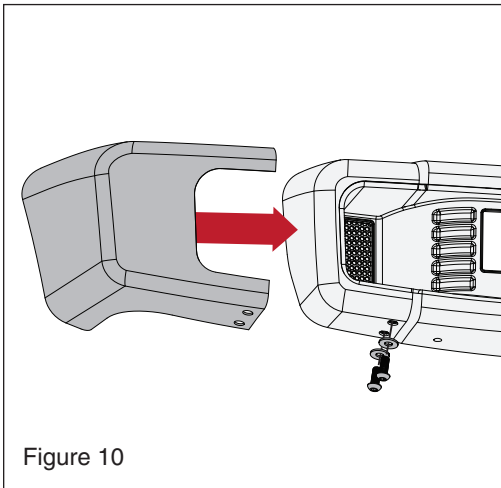

Figure 10
*Attach bumper ends on the rear bumper using lower M10 Button head bolts and plastic washers using a 6mm allen wrench. (see FIG10)*